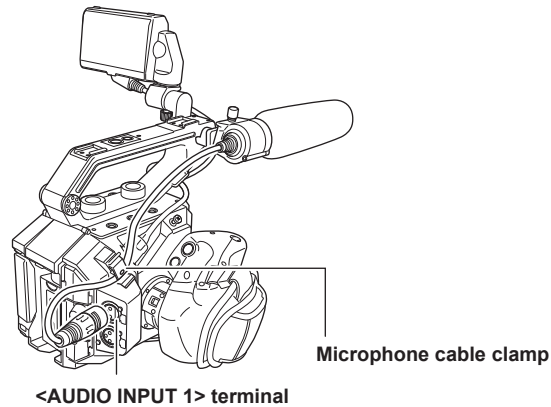

Fig. 4
- 4** Connect the microphone cable to the <AUDIO INPUT 1> terminal. (Fig. 4)
- 5** Attach the microphone cable to the microphone cable clamp. (Fig. 4)